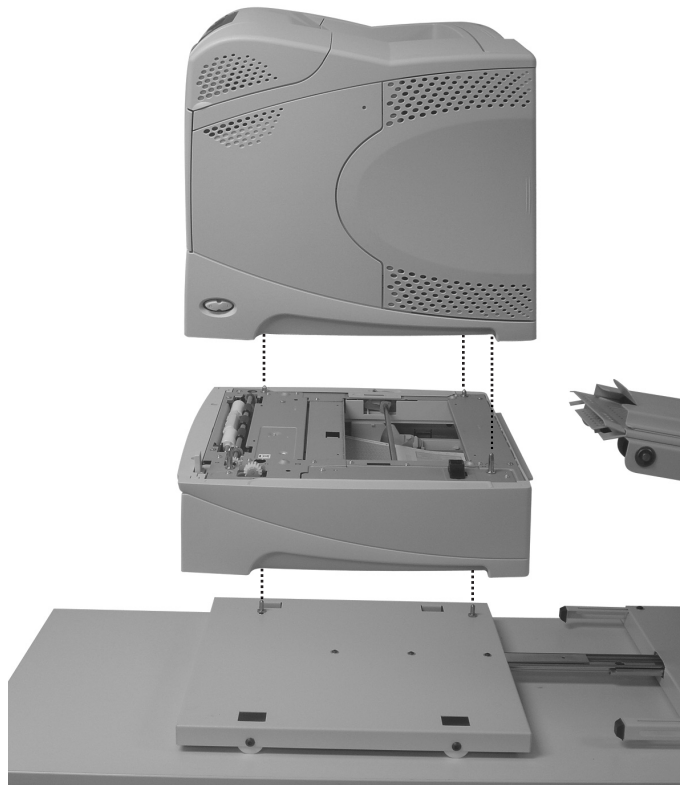

Fig. 7
2. Place printer on alignment base. First align bottom feed tray with the pins on the printer alignment base and lower into position. Then align printer with the bottom feed tray pins and lower into place. (Fig. 7)